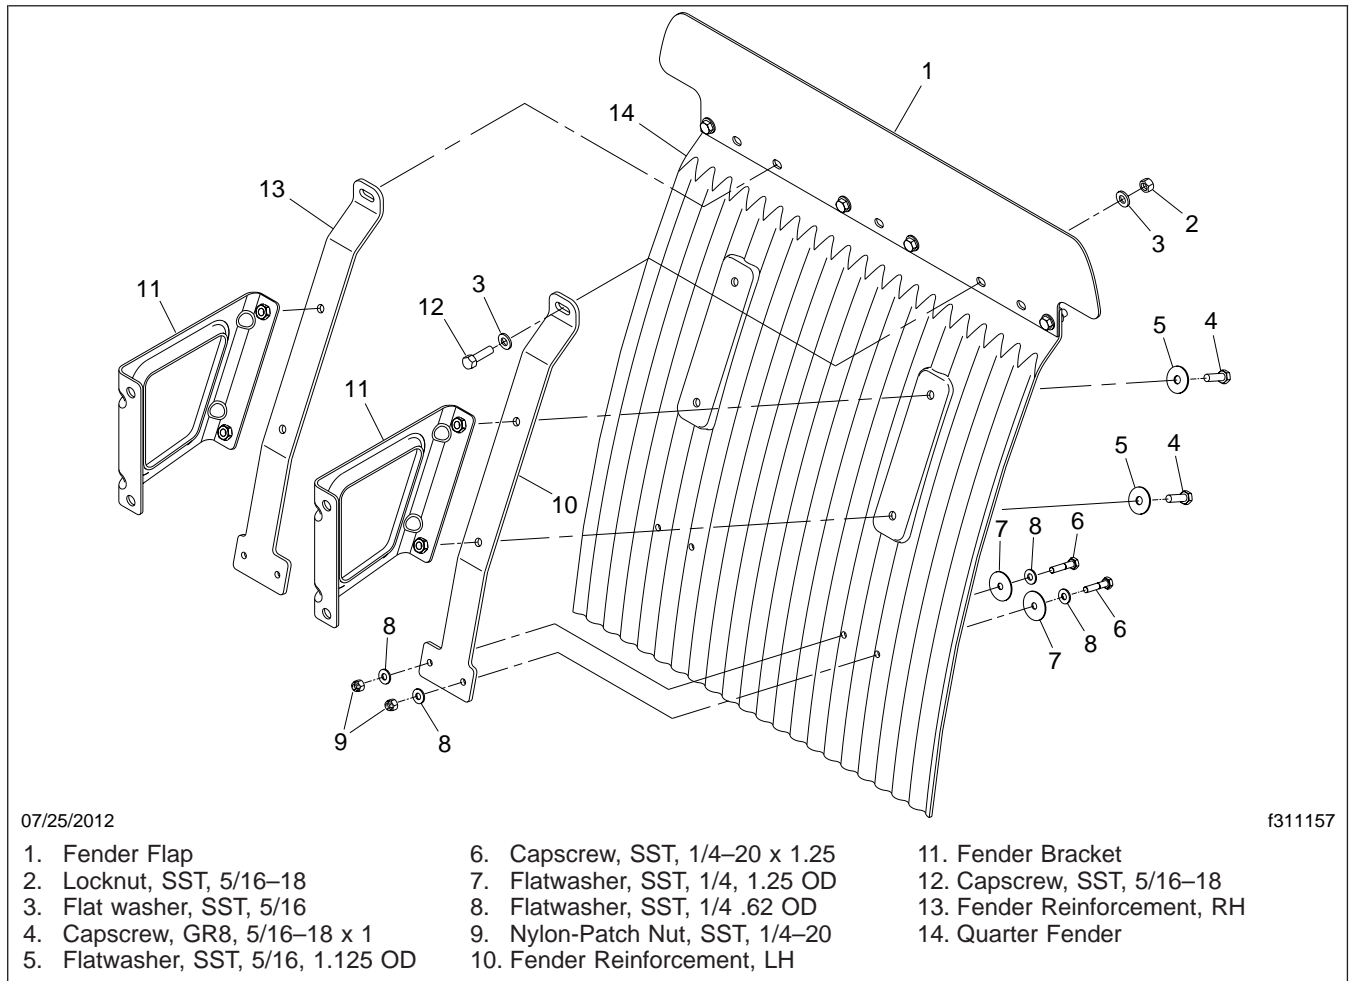

Fig. 1, Quarter Fender Reinforcement Installation
On some Cascadia vehicles built with full-length chassis side fairings, the rear quarter fenders may crack at the fender mounting. A steel reinforcement is available to improve the durability of the quarter fender mounting. See **Fig. 1**. When replacing a rear quarter fender, it is recommended that the additional steel reinforcements also be installed.
5. Position the quarter fender reinforcements on the new quarter fender. The longer toe of each reinforcement should point inward. See Fig. 1 for orientation. Attach each reinforcement to the top of the fender at the fender flap and hand-tighten the fasteners.
8. Install the fasteners with the 1.25 OD washers touching the quarter fender plastic, and the .62 OD washers between the larger washers and the capscrew head. Install the bracket-side nuts with .62 OD washers. See Fig. 1. Tighten the fasteners 4 to 6 lbf-ft (5.5 to 8 N-m).